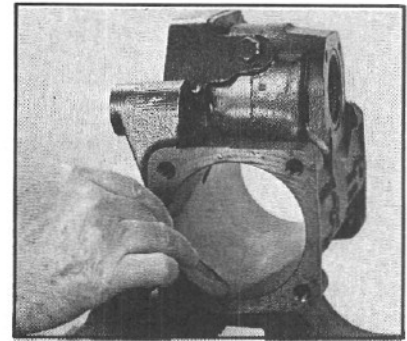

Figure 83
4. Inspect the housing cylinder bore (FIG. 83), where you will probably notice normal scoring marks running lengthwise through the bore. Since this scoring is normal, you should not compare it to the scoring you might find in the cylinder bores of an internal combustion engine. Replace the housing only if you've tested it for internal leakage (as described in the troubleshooting section on page 6) and you've determined that the scoring, and not damaged seals, is responsible for the excessive internal leakage (greater than 1 gpm).